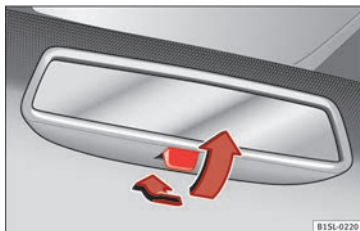

Fig. 116 Manual anti-dazzle function for rear vision mirror
- Pull the lever to the back to select the anti-dazzle function »» Fig. 116.